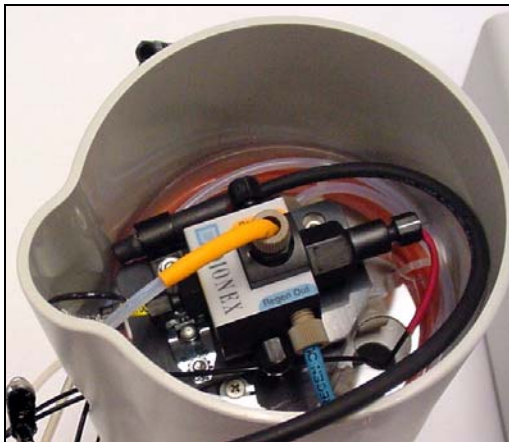

Figure 5-60. CR-TC Installed in Holder
10. Check that none of the lines are caught under the CR-TC and then push the CR-TC onto the metal stud inside the EGC holder. Push down until the CR-TC snaps into place (see Figure 5-60).